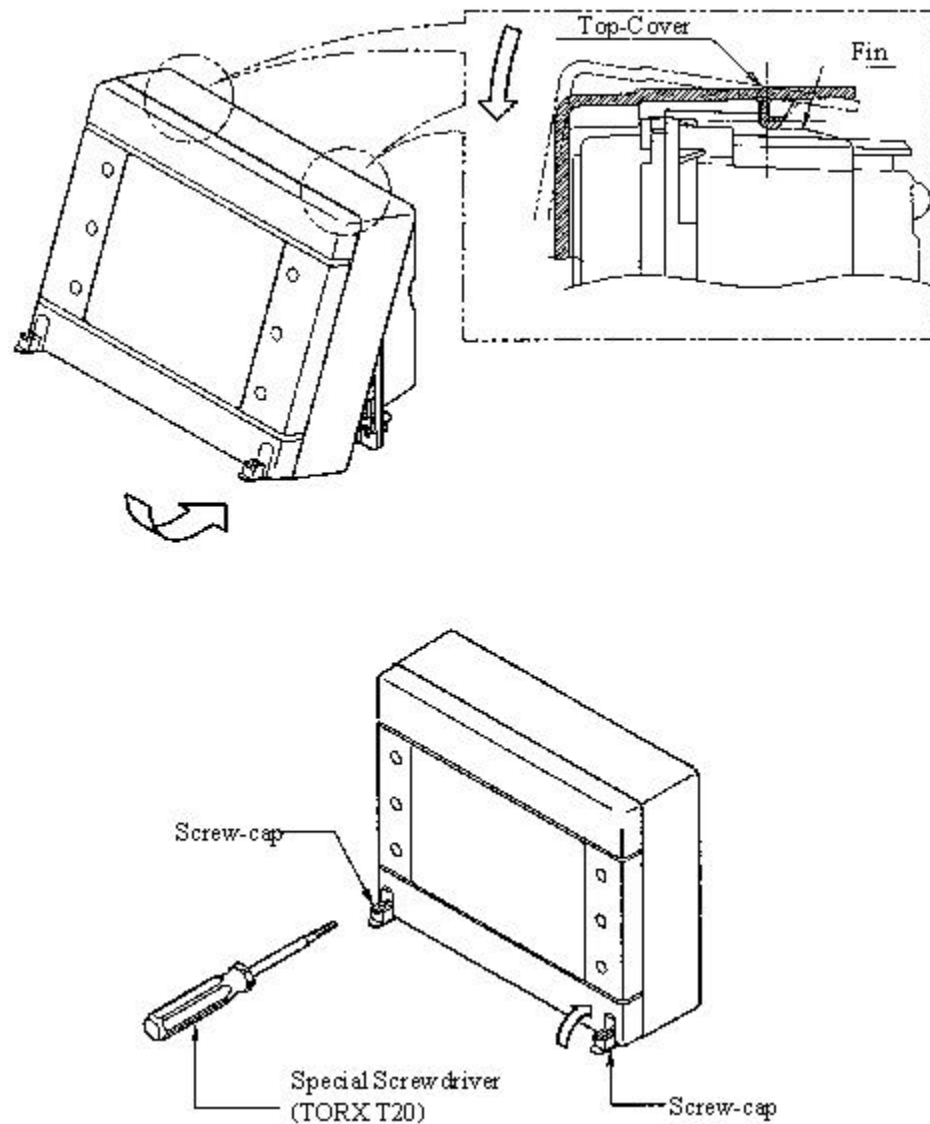

Figure 3-20: Top Cover Attachment
8. Replace the top cover. Make sure it is properly positioned over the fin on the main unit as shown in Figure 3-20. Tighten the screws in the top cover and replace the screw caps.